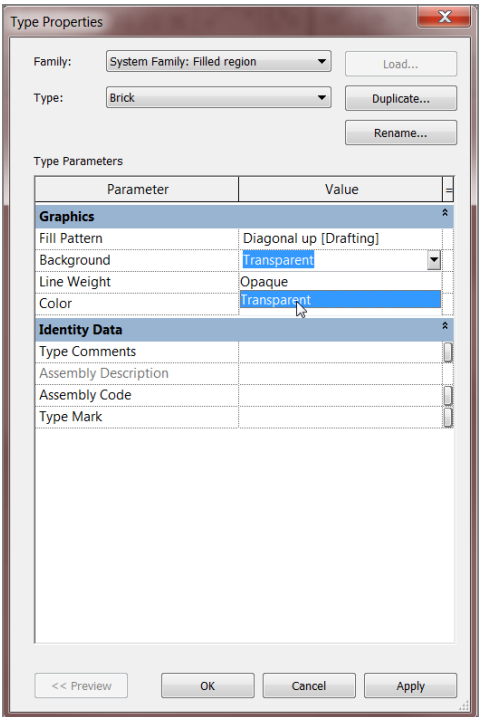

FIGURE 12.18: Changing the background to Transparent
16. Change the background from Opaque to Transparent, as shown in Figure 12.18.